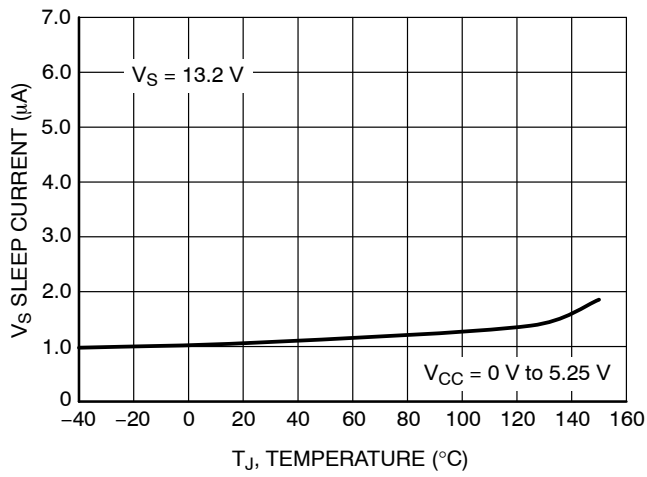

Figure 6. V_S Sleep Supply Current vs. Temperature
- For temperatures above 85°C , refer to Figure 6.
5. For temperatures above 85°C , refer to Figure 6.